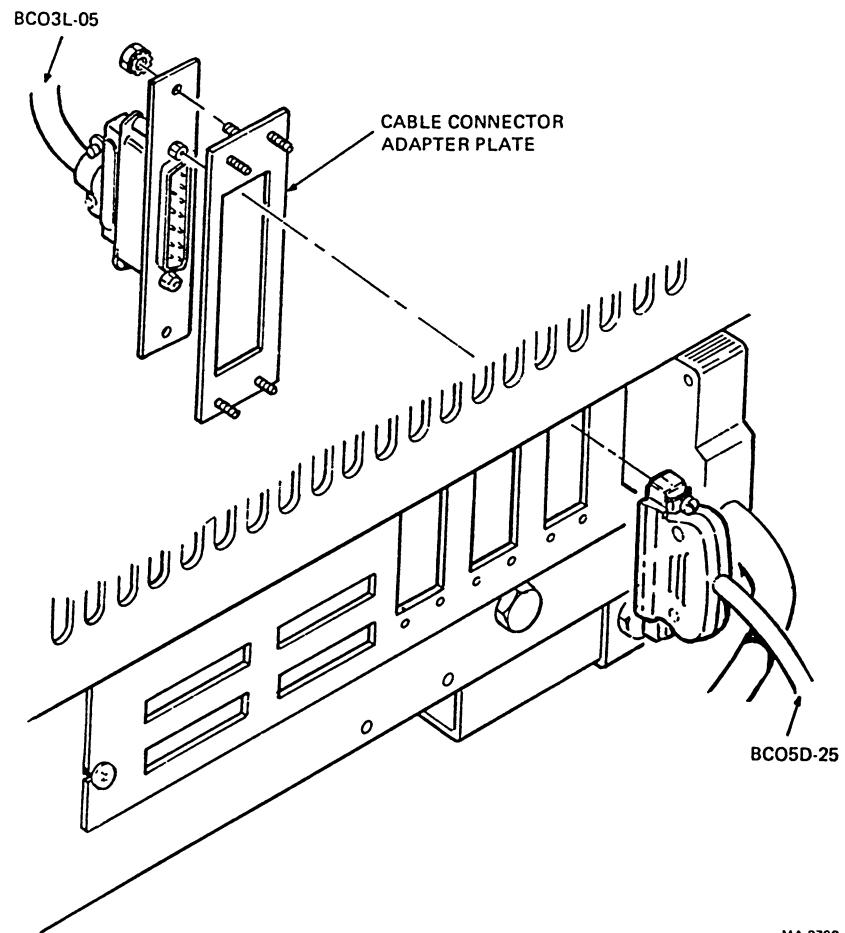

Figure 2-4 Cabinet Bulkhead Cable Connection (Rear)
9. Attach the cable connector adapter plate (P/N 7421885-00) to the BC03L-05 filtered plug cable connector (P/N 121256-0-0) using two 6-32 Kep Nuts (Figure 2-4).
13. Connect the BC03L-05 cable connector and adapter plate to cabinet cut-out assembly (Figure 2-4).
16. Connect BC05D-25 interface cable cinch plug (P/N 1205886) to BC03L-05 feed-through connector and secure (Figure 2-4).
2. Disconnect the BC05D-25 cable connector from the feed-through connector (Figure 2-4).
11. Disconnect the BC05D-25 cable connector from the feed-through connector (Figure 2-4).
13. Remove the BC03L-05 cable connector and adapter plate from cut-out assembly (Figure 2-4).